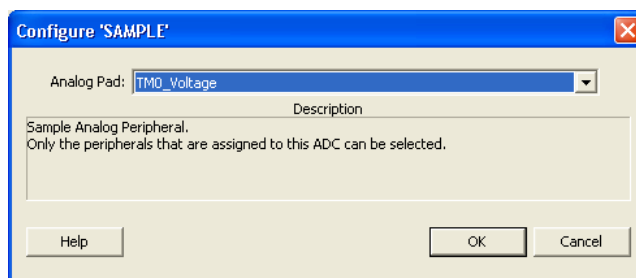

Figure 13 · Configure SAMPLE
10. The **Configure SAMPLE** window is displayed. Select **TM0_voltage** as shown in Figure 13 · and click **OK**.